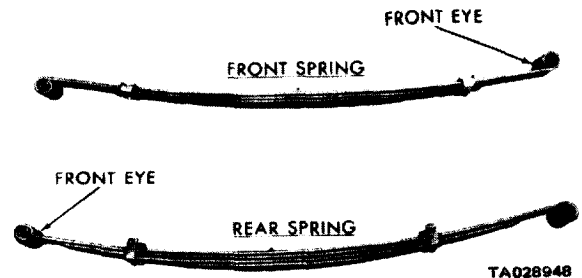

Figure 7-9. Leaf Spring Assemblies (4X4 Models).
a. 4X2 Models. The 4X2 trucks use coil springs on the front and progressive-type leaf springs (figure 7-9) on the rear. Removal and installation instructions for the front coil springs are contained in section I of this chapter. The progressive-type rear springs used on the rear of these trucks operate in two stages. The first stage, comprised of the upper leaves, provides a low spring rate with light loads. With heavier loads, the second stage of the springs gradually comes into use. The lower leaves come into contact with the upper leaves, providing increased spring rate.